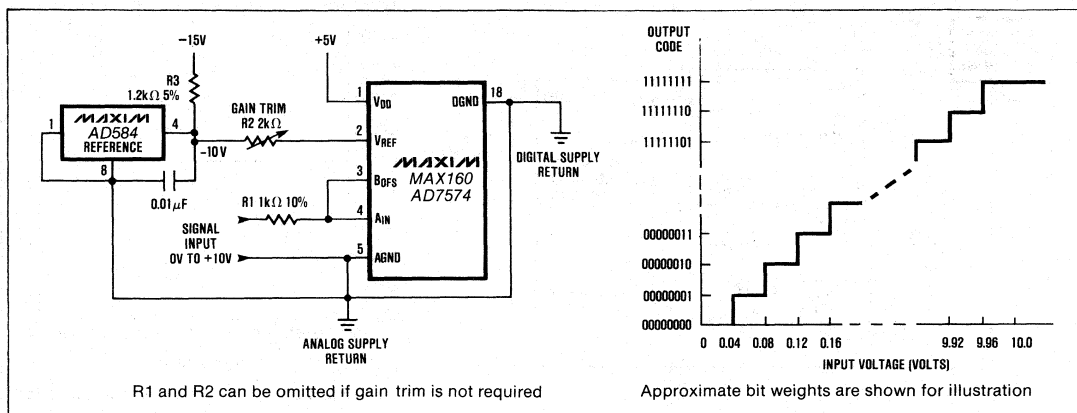
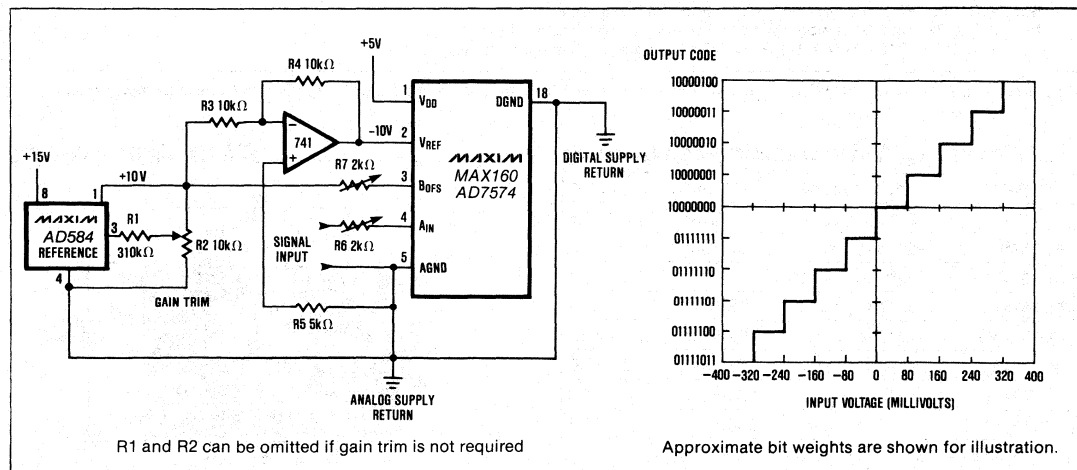
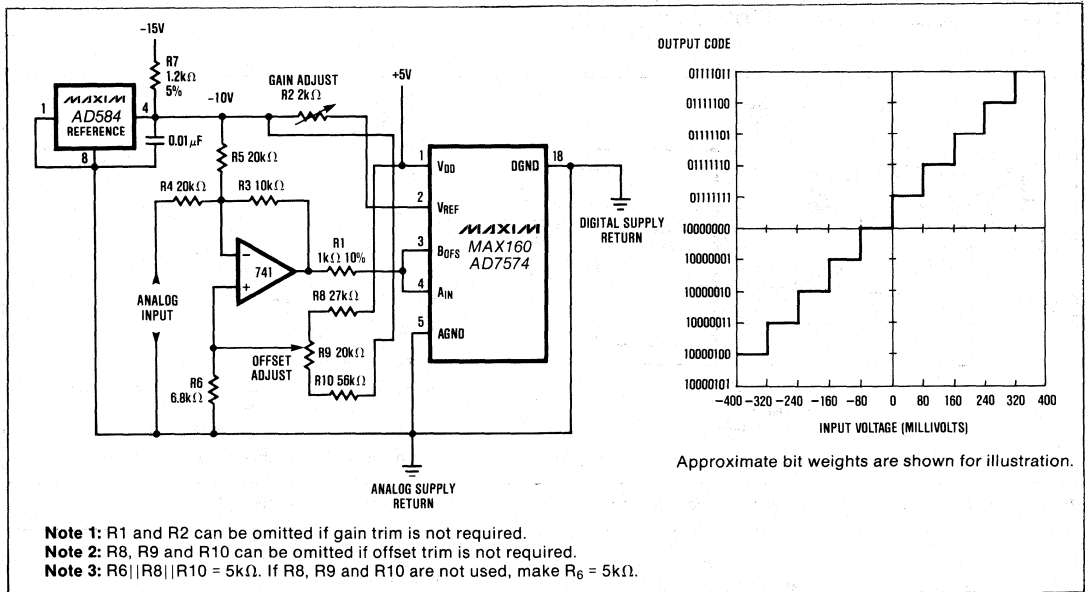

Figure 10. Unipolar (0V to +10V) Operation and Nominal Transfer Characteristic (Output Code is Straight Binary)
Figure 11. Bipolar (-10V to +10V) Operation and Nominal Transfer Characteristic Around Major Carry (Output Code is Offset Binary)
Figure 12. Bipolar (-10V to +10V) Operation and Nominal Transfer Characteristic Around Major Carry (Output Code is Complimentary Offset Binary)
Offset error in the transfer function can be trimmed by offsetting the buffer that drives the  $A_{IN}$  input. This can be achieved either by summing a cancellation current into the amplifier's summing junction, or by tapping a voltage divider which sits between  $V_{DD}$  and  $V_{REF}$  and applying the tap voltage to the amplifier's non-inverting input. An example of the latter method can be seen in Figure 12.
Figure 10 shows the analog circuit connections and nominal transfer characteristic for unipolar operation. Calibration is as follows:
If offset trimming is required, it must be done in the signal conditioning circuitry used to drive the  $A_{IN}$  input in Figure 10. See also the offset trim example shown in Figure 12.
Figure 11 illustrates the analog circuitry and transfer function for bipolar operation. The output coding is offset binary. Offset correction can be performed at the buffer amplifier used to drive the signal input terminals of the MAX160/AD7574. See Figure 12 for an example of how offset trimming can be performed. Calibration is as follows:
Figure 12 shows the analog connections for offset binary operation. The typical transfer characteristic is also shown. In this bipolar mode, the input signal (-10 to +10V) is conditioned and the A/D basically operates in unipolar mode (0 to +10V). Calibration is as follows (offset adjusted before gain):
1. Apply 0V to the analog input shown in Figure 12.
1. Apply -9.922V across the analog input terminals shown in Figure 12.